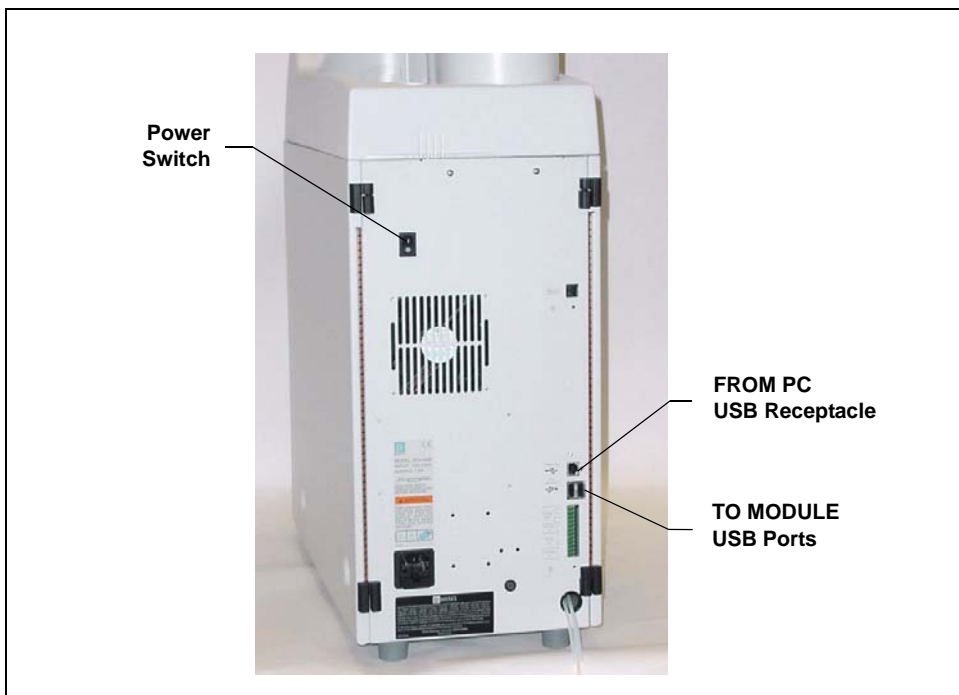
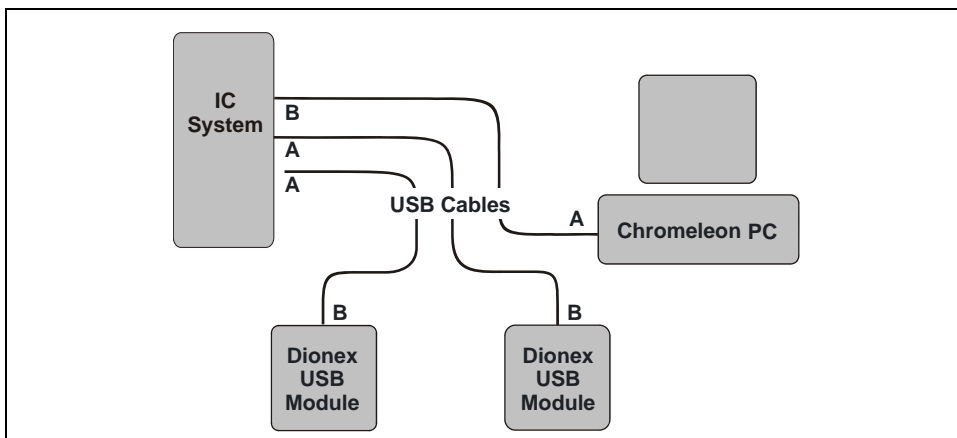

Figure 14. IC System Rear Panel
Figure 15. Example USB Connections: Two Dionex USB Modules Connected to the IC System
(see Figure 14) and plug the cable's "B" connector into the USB receptacle on the other USB module (see Figure 15).
1. Verify that the main power switch on the rear panel of the ICS-2100 (see Figure 14) is turned off. (The main power switch may be turned on accidentally when the module is unpacked.)
4. Press the power switch on the ICS-2100 rear panel (see Figure 14) to turn on the power.